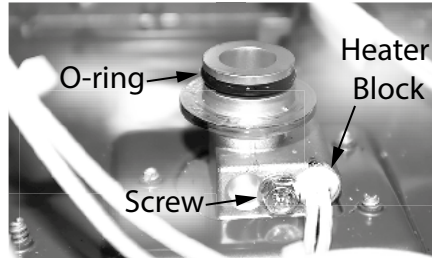

Figure 6 - Heater block location
- 21 Locate the screw securing the heater block in the base of the inlet assembly. See Figure 6. Use a Phillips screwdriver to remove the screw. Place the screw aside in a safe place for reinstallation.
- 26 Place the new O-ring on the new inlet assembly. See Figure 6.